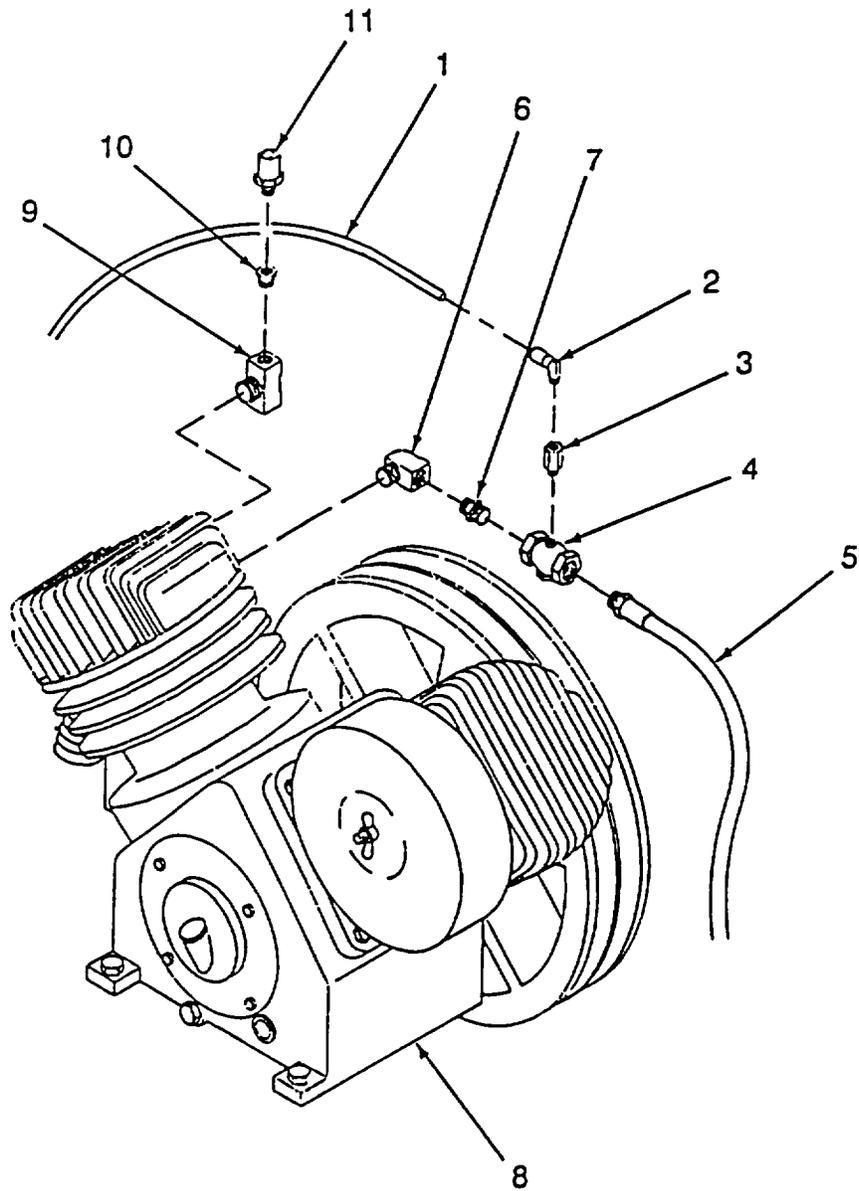

Figure 4-24. Plumbing
a. Removal. (Refer to Figure 4-24).
- (1) Open condensate drain valve on reel cabinet to relieve tank pressure.
- (2) Verify that pressure has been relieved by reading the air pressure gauge. It should read zero.
- (3) Remove air tubing (1), elbow fitting (2), and adapter/extender (3) from check valve (4).
- (4) Remove braided steel hose (5) from check valve (4).
- (5) Remove street elbow (6), nipple (7) and check valve (4) from air compressor (8).
- (6) Remove nipple (7) from street elbow (6) and check valve (4).